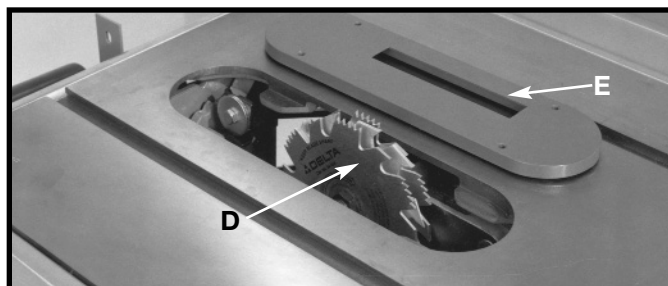

Fig. 69
2. Attach the dado head set (D) Fig. 69, to the saw arbor. **NOTE: THE OUTSIDE ARBOR FLANGE CAN NOT BE USED WITH THE DADO HEAD SET, TIGHTEN THE ARBOR NUT AGAINST THE DADO HEAD SET BODY. DO NOT LOSE THE OUTSIDE ARBOR FLANGE. IT WILL BE NEEDED WHEN REATTACHING A BLADE TO THE ARBOR.**
⚠ WARNING THE ACCESSORY DADO HEAD SET TABLE INSERT (E) FIG. 69, MUST BE USED IN PLACE OF THE STANDARD TABLE INSERT.